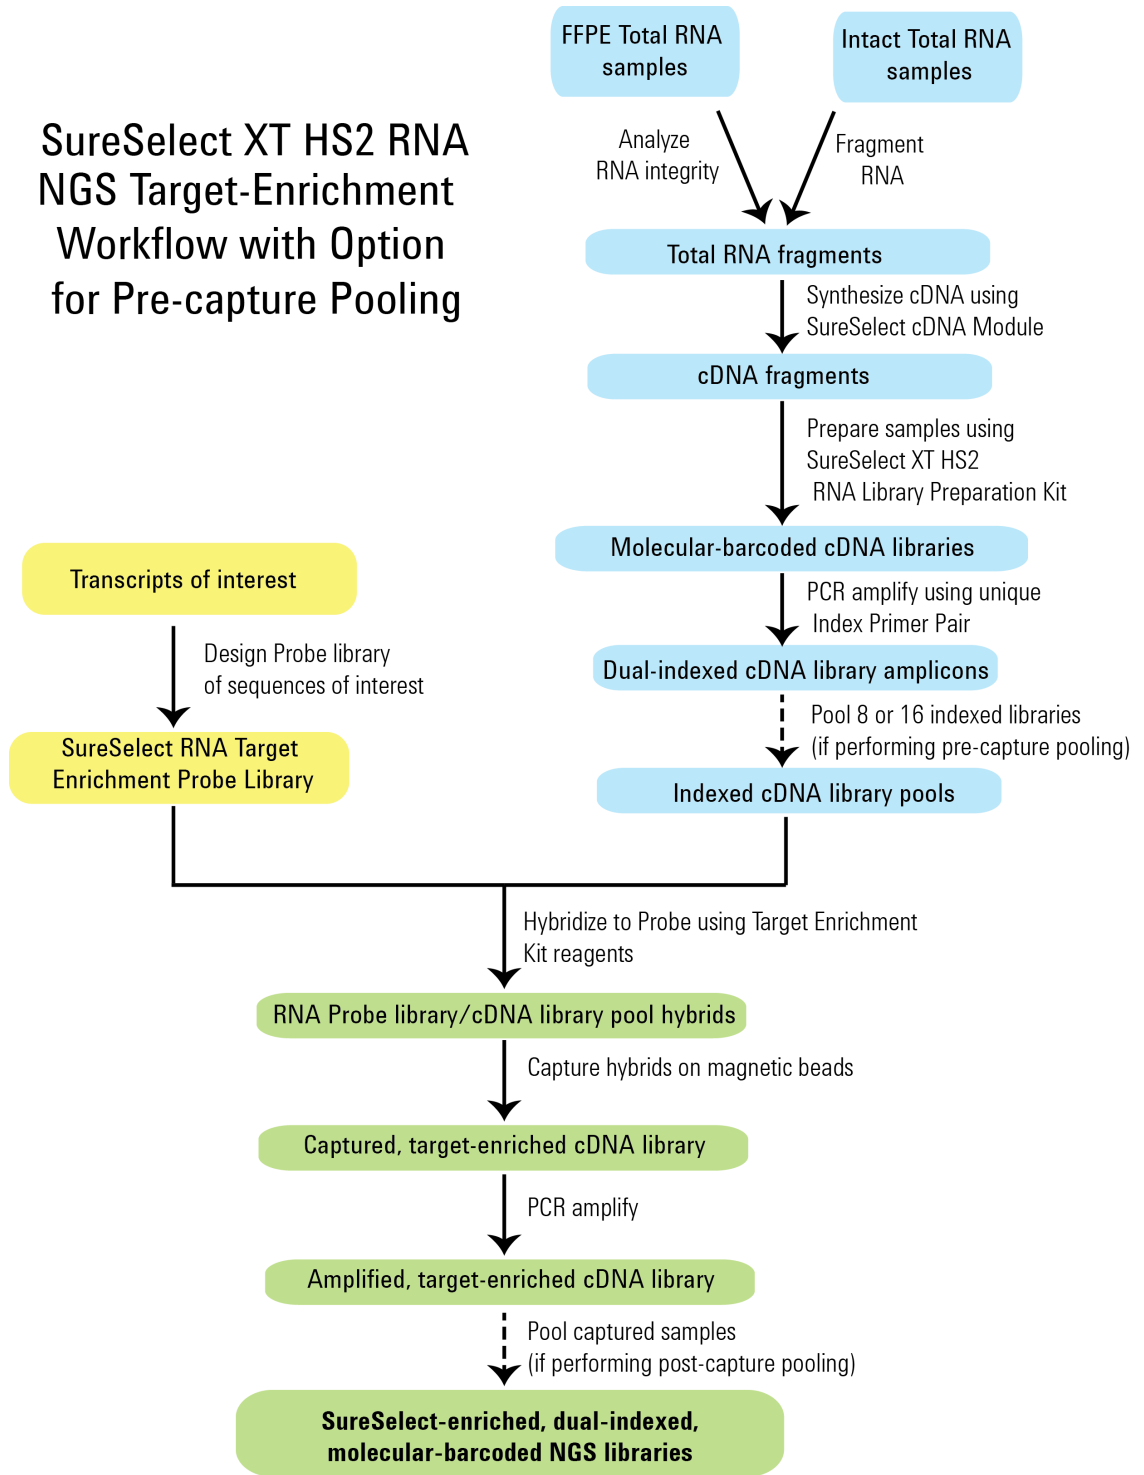

Figure 2 Overall sequencing sample preparation workflow.
Figure 2 summarizes the SureSelect XT HS2 RNA library preparation and target enrichment workflow for total RNA samples to be sequenced using the Illumina paired-read sequencing platform. For each sample, the workflow includes library preparation, hybridization, and capture.
- Samples are indexed during pre-capture amplification (see **Figure 2**). Assign each sample to the appropriate indexing primer during experimental design, and place the sample in the well corresponding to its assigned primer. See **Table 99** on page 161 through **Table 102** on page 162 for indexing primer plate maps.
- At the hybridization step (see **Figure 2**), you can add a different Probe to each row of the plate. Plan your experiment such that each prepared DNA library plate position corresponds to the appropriate Probe row in the sample plate.
- For post-capture amplification (see **Figure 2**), different Probes can require different amplification cycle numbers, based on sizes of the captured targets. It is most efficient to process similar-sized Probes on the same plate. See **Table 70** on page 123 to determine which Probes may be amplified on the same plate.